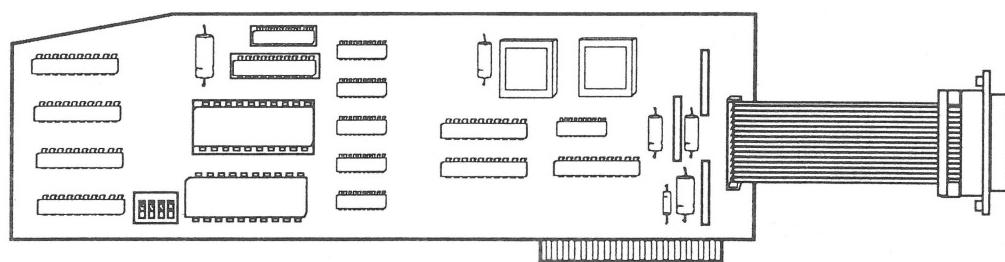

FIGURE 6
- IPL.7 High Speed SCSI Card (Figure 6)
HIGH-SPEED SCSI CARD (Figure 6)